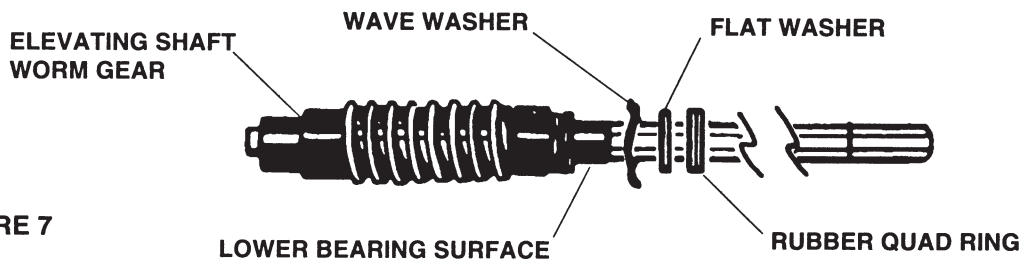

FIGURE 7
Lubricate rubber quad ring on elevating shaft which is below worm gear with silicone spray lubricant at least **twice yearly** (Figure 7). This will keep quad ring from becoming brittle which could result in leaks down elevating shaft.
STEP 4: Lubricate worm gear assembly on new elevating shaft assembly with spray silicone lubricant. **Make sure wave washer, flat washer and quad ring are on lower bearing** (Figure 7) and insert assembly in housing.